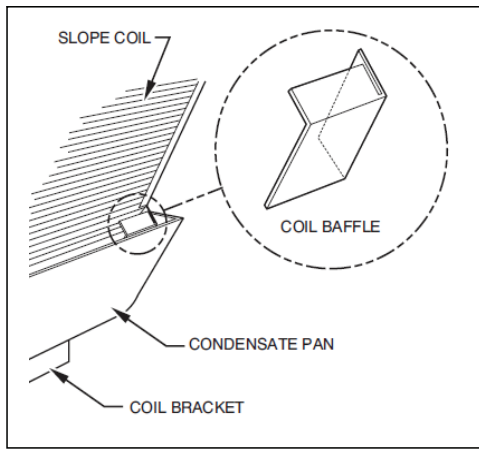

Fig. 2 – Coil Baffle Location
1. Insert the coil baffle shipped with the coil into the back of the pan. This baffle is required to avoid potential water blowout of the drain pan (Fig. 2).
5. If necessary, temporarily remove the small coil baffle in the rear of the pan (Fig. 2) to fully engage the pan extension. Replace it after installing the pan extension.